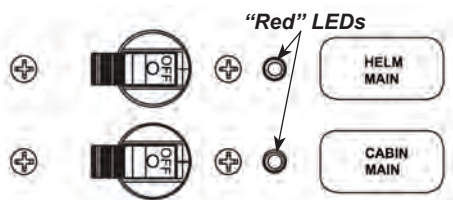

Figure H16: Helm & Cabin Main Circuit Breakers - OFF
1. On the 12VDC cabin panel, turn the HELM MAIN and CABIN MAIN circuit breaker switches to the OFF position (“red” LED’s are unlit). See Figure H16.